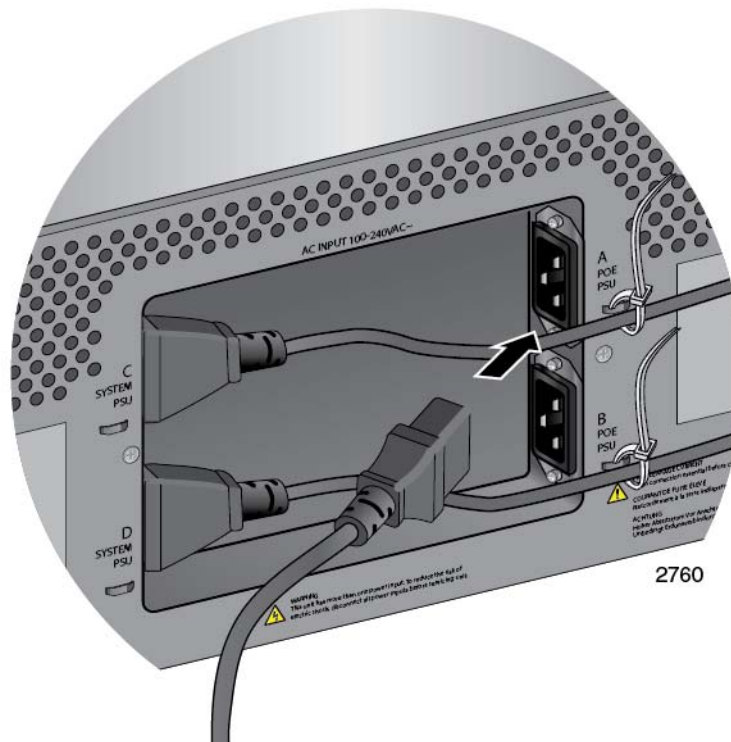

Figure 94. Connecting the AC Power Cord for the AT-SBxPWRPOE1 Power Supply
2. Plug the AC power cord that comes with the power supply into one of the plugs, as shown in Figure 94.